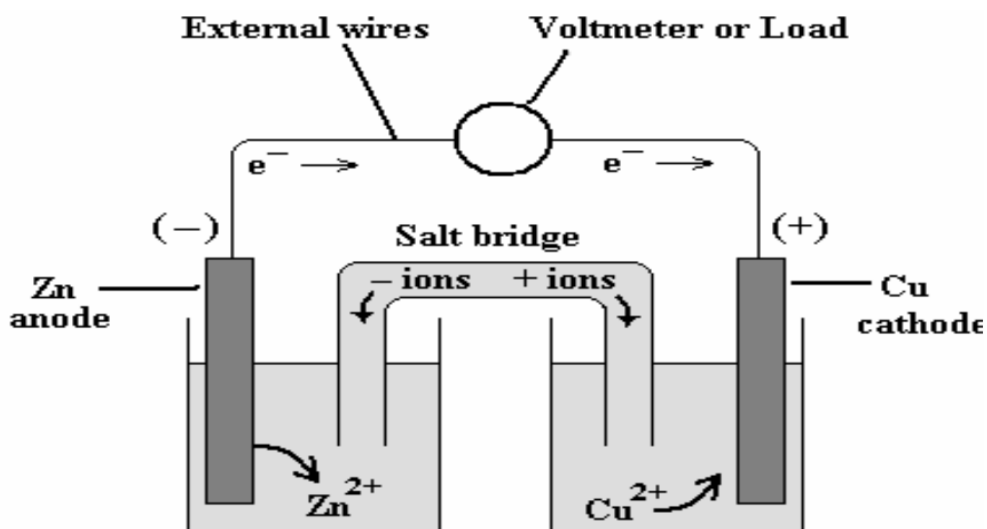

Figure 1. Galvanic cell (or battery) based on the redox reaction in equation (3).
<p>Introduction:</p> <p>Chemical reactions involving the transfer of electrons from one reactant to another are called oxidation-reduction reactions or redox reactions. In a redox reaction, two half-reactions occur; one reactant gives up electrons (undergoes oxidation) and another reactant gains electrons (undergoes reduction). When immersed in water, a piece of zinc going into a solution as zinc ions, with each Zn atom giving up 2 electrons. This is an example of an oxidation half-reaction.</p> $Zn(s) \rightarrow Zn^{2+}(aq) + 2e \quad (1)$ <p>Another example of reduction is the formation of solid copper from copper ions in solution.</p> $Cu^{2+}(aq) + 2e \rightarrow + Cu(s) \quad (2)$ <p>The redox reaction results when an oxidation and a reduction half-reaction are combined to complete the transfer of electrons as in the following example:</p> $Zn(s) + Cu^{2+}(aq) \rightarrow Zn^{2+}(aq) + Cu(s) \quad (3)$ <p>A measure of the tendency for a reduction to occur is its reduction potential, E, measured in units of volts. Standard reduction potentials have been measured for many half-reactions and they are listed in tables.</p> <p>A galvanic cell or voltaic cell is a device in which a redox reaction, such as the one in equation (3), occurs spontaneously and produces an electric current. In order for the transfer of electrons in a redox reaction to produce an electric current and be useful, the electrons are made to pass through an external conducting wire instead of being directly transferred between the oxidizing and reducing agents. The design of a galvanic cell (shown in Figure 1 for equation (3) reaction) allows this to occur. In a galvanic cell, two solutions, one containing the ions of the oxidation half-reaction and the other containing the ions of the reduction half-reaction, are placed in separated compartments called half-cells.</p> <p>For each half-cell, the metal, which is called an electrode, is placed in the solution connected to an external wire. The electrode at which oxidation occurs is called the anode [Zn in equation (3)] and the electrode at which reduction occurs is called the cathode [Cu in equation (3)].</p>
[+0.34 V for copper cathode and –0.76 V for zinc anode and], the standard cell potential, E°_{cell} , for the galvanic cell in Figure 1 would be: